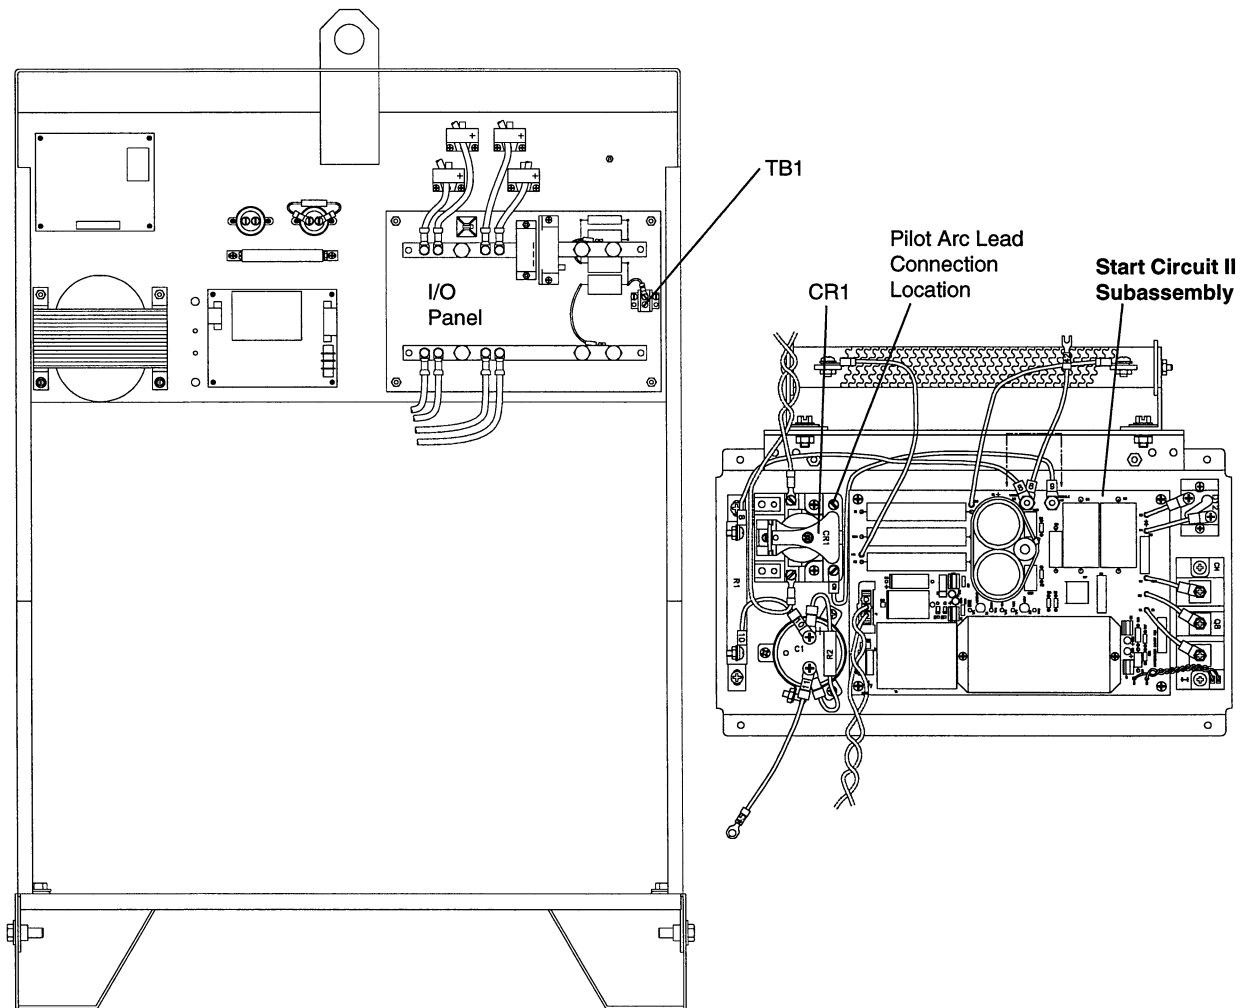

Figure 6 Moving Pilot Arc Lead from I/O Panel to Start Circuit PCB
3. Connect the pilot arc lead to the pilot arc relay (CR1) on the start circuit subassembly as shown in Fig. 6.